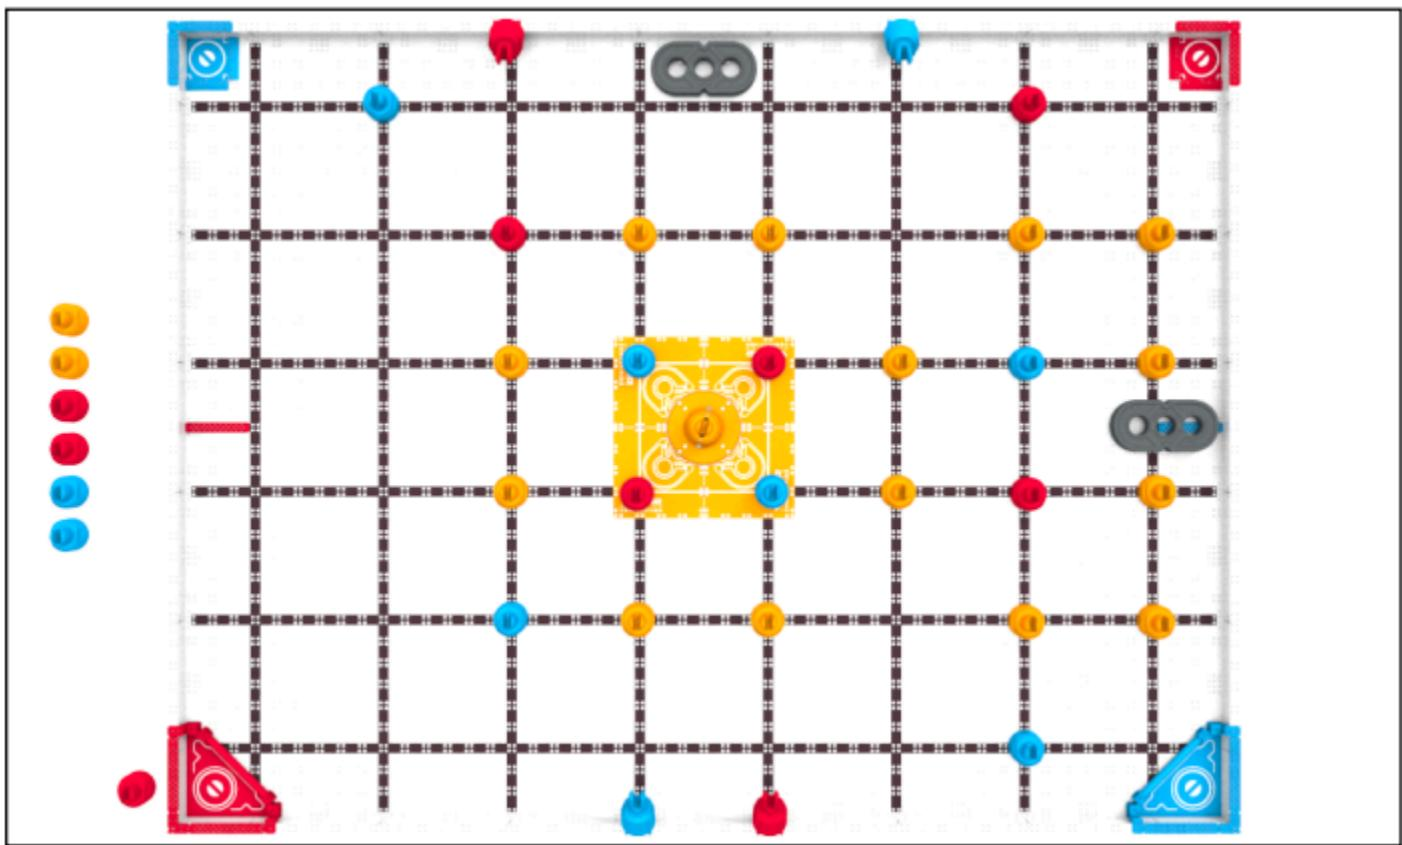

Figure RSC3-1: The Field Configuration for a VIQRC Mix and Match Robot Skills Match.
- a. The layout of *Scoring Objects* for a Mix & Match *Robot Skills Match* differs from the layout for *Teamwork Challenge Matches*, as shown in Figure RSC3-1.